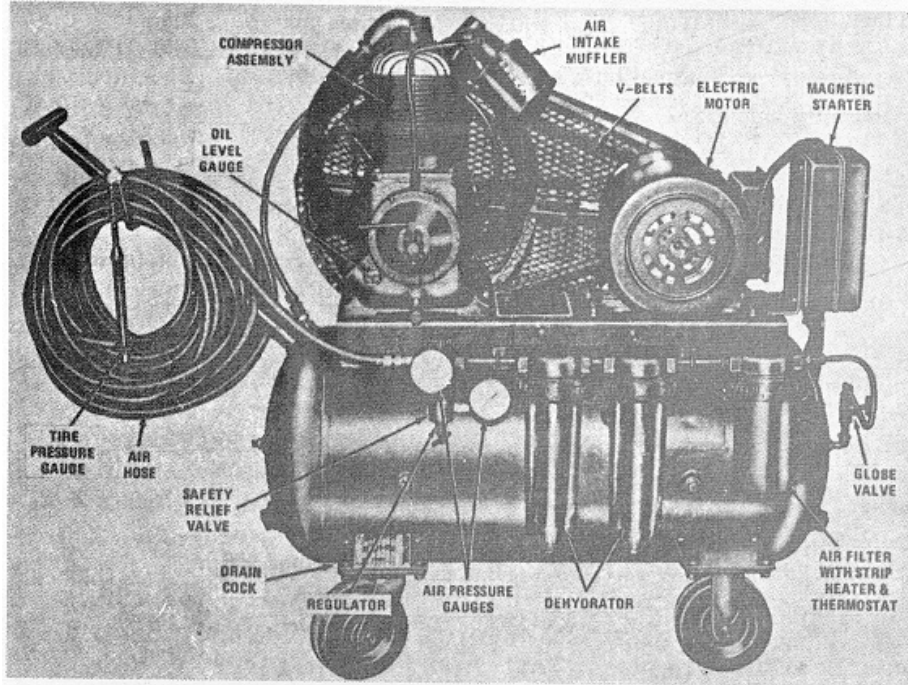

Figure 1. Air compressor, right side view
A. The model HR2-3M-1 air compressor (figs. 1 and 2) is a portable, castor mounted, reciprocating type compressor. It is designed to deliver 5 cfm (cubic feet per minute) of air compressed to 175 psi (pounds per square inch) pressure. The compressor is electric motor driven. The air compressor is a two cylinder, two-stage, air-cooled unit. It will deliver 5 cfm at 175 psi to the air receiver tank. The air receiver tank is of welded steel
- c. Install pressure gages as shown on figure 1.